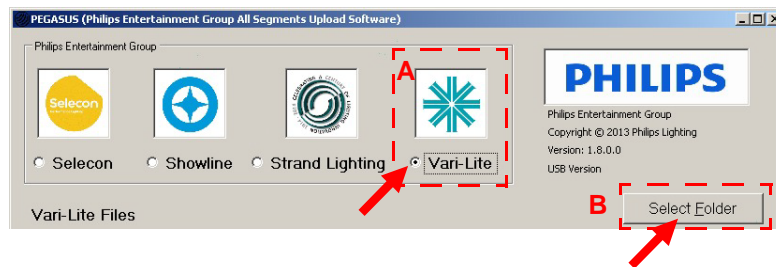

Figure 3-10: PEGASUS Software Selection Screen
- Select Vari-Lite for luminaire type (as shown in Figure 3-10).
- As indicated in Figure 3-10, click on Select Folder button to open browser window.